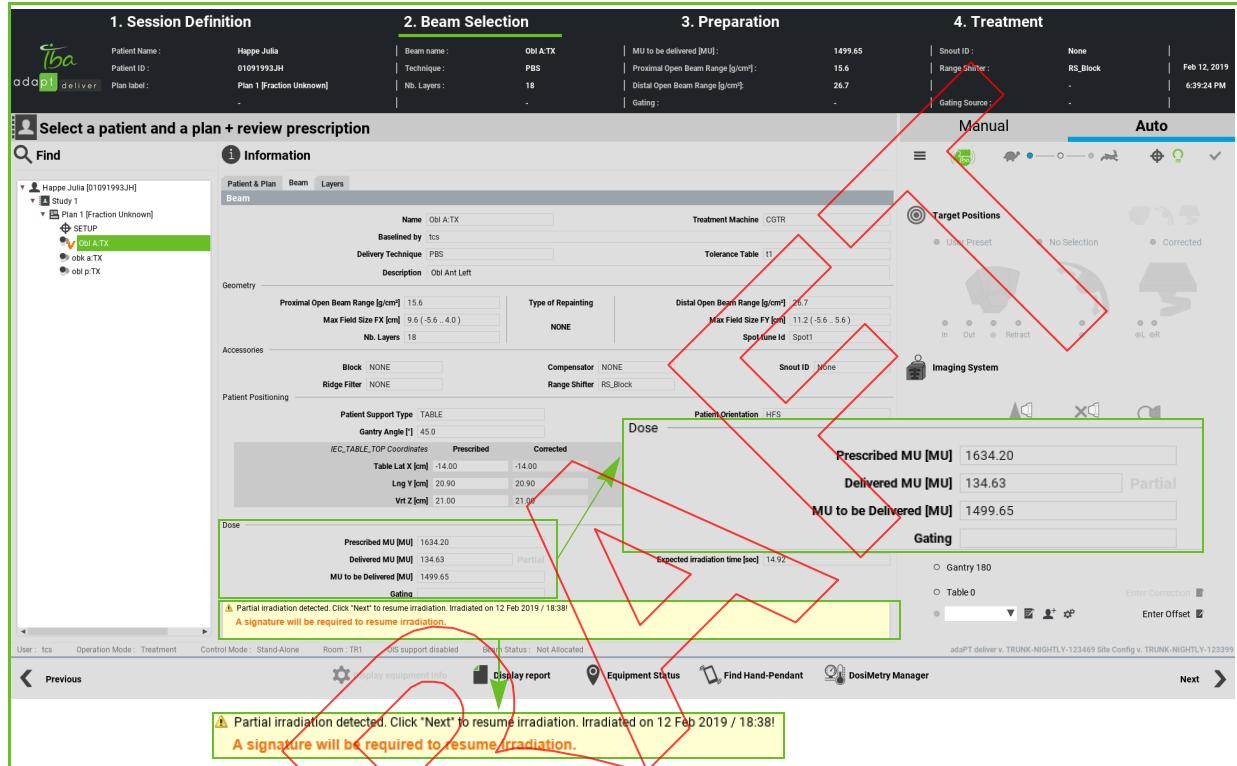

Figure 41-20. Resuming irradiation after partial treatment
In the Beam Selection screen (Figure 41-20), the beams marked as partial are indicated by an orange checkmark .
6. In the **Dose panel** (Figure 41-20), the user can see that: